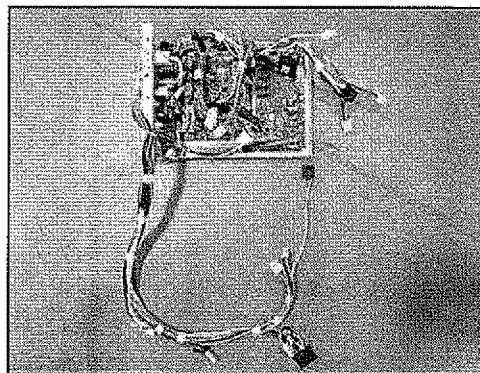
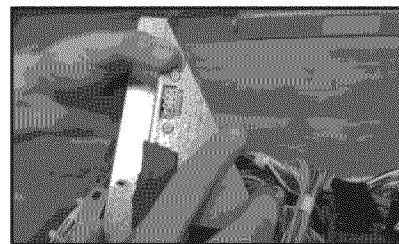

FIGURE 12
FIGURE 17
14. Unpack new HV assembly from the package it was shipped in. Upon unpacking, the new HV assembly will be similar to the image shown in *Figure 12*.
- The switch plate assembly will need to be added to the new HV assembly shown in *Figure 12*. Start by reconnecting the testing connector from the new HV assembly. Push the testing connector back through the cutout. See *Figure 17*.